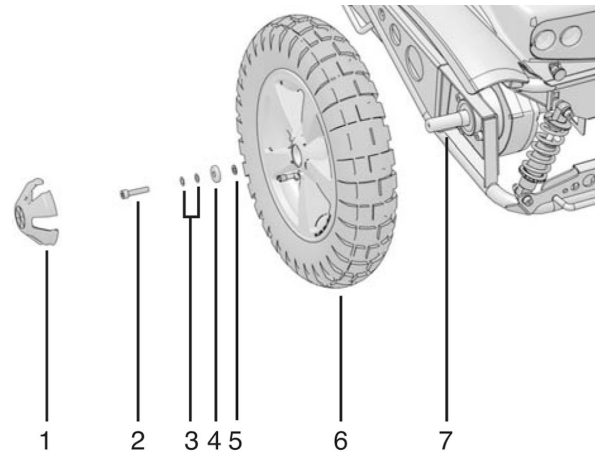

Figure 14. Drive wheel.
5. Fit the four washers 3, 4 and 5 on the screw 2 and tighten the wheel. Fit the hub cap 1. See fig. 14.